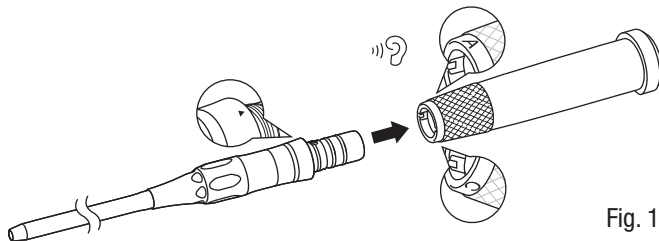

Fig. 1
- 2 Align the '▲' symbol of the attachment/handpiece with the 'A' or 'C' symbol (either one) of the motor (Fig. 1). Then push the attachment/handpiece firmly into the motor until it clicks.